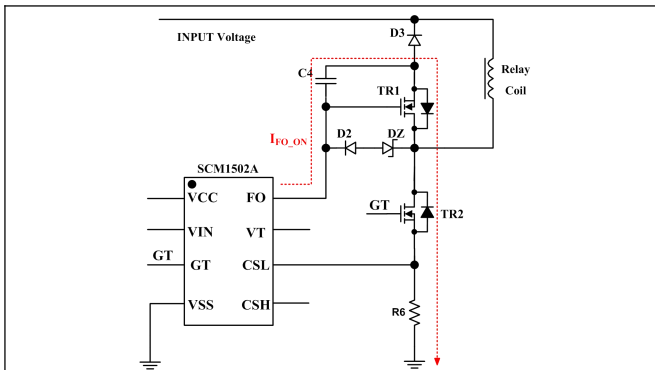

Fig. 5 Start-up circuit schematic
(1) Figure 5, the working principle of the chip startup, see the working principle diagram of the startup process. After the chip is started, the GT will output a high level, and the FO will continue to output a current-driven MOS transistor TR1. FO charges the gate of MOS transistor TR1, and the current I_{FO_ON} path is as follows: When MOS transistor TR2 is turned on, the FO pin charges capacitor C4 through the body diode of MOS transistor TR1 and MOS transistor TR2. Each time the MOS transistor TR2 is turned on, the FO pin will charge the capacitor C4. Therefore, in the Pick-up and Holding stages, the MOS transistor TR1 is turned on all time.